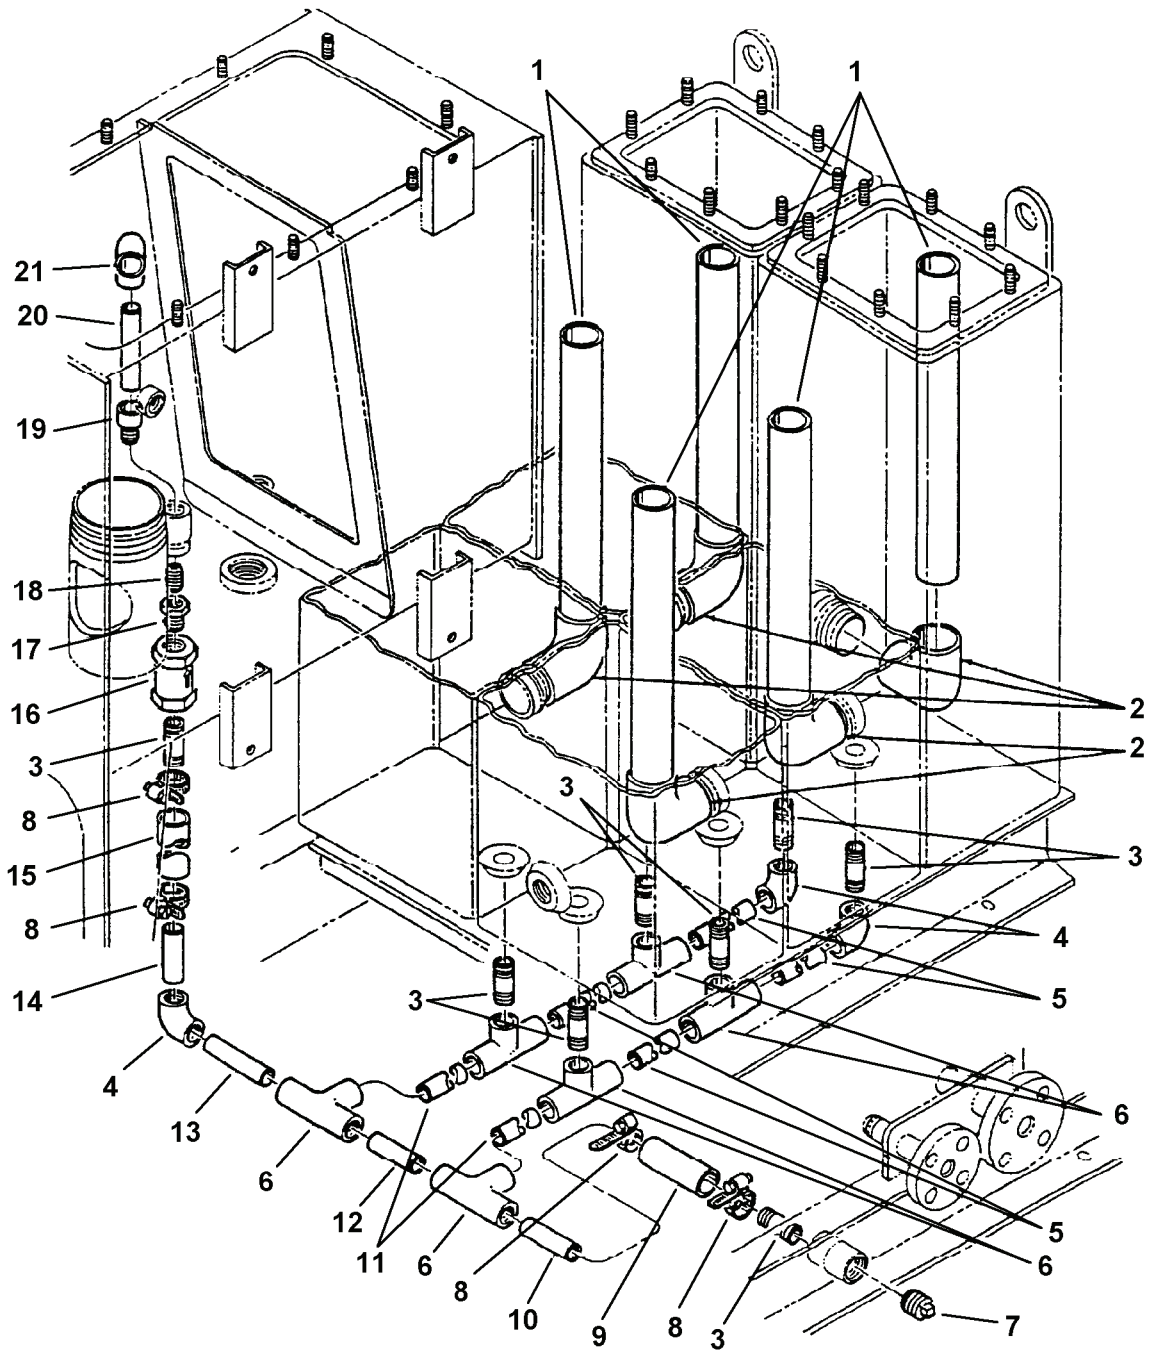

Figure 2-25. Flow Piping Assembly Group.
- a. Removal of the Flow Control Valve (Figure 2-25); proceed as follows:
- (1) Place container under pipe plug (7) to catch remaining bleach or effluent.
- (2) Remove pipe plug (7) and allow complete draining of piping system.
- (3) Loosen two hose clamps (8) from non metallic hose (15) and remove hose.
- (4) Disconnect nipple pipe (3) from flow control valve (16).
- (5) Disconnect flow control valve (16) from pipe bushing (17).
- b. Removal of the piping assembly (Figure 2-25) proceed as follows:
- (1) The upper section of piping (17, 18, 19, 20 and 21) can be disconnected after the flow control valve (16) is removed.
- (2) The lower section of piping (14, 4, 13, 6, 12, 11, 3, 5 and 10) can be disconnected after removal of the two hose clamps (8) from the applicable non metallic hoses (15 or 9).
Repair is by replacement of the Flow Control Valve, damaged or worn associated piping (Figure 2-25):
- (1) Remove applicable associated pipe fittings as describe in removal step b.
- (2) Install new applicable pipe fitting as described in replacement step b.
- a. To replace the Flow Control Valve (Figure 2-25) proceed as follows:
- (1) Connect flow control valve (16) to pipe bushing (17).
- (2) Re-connect nipple pipe (3) to flow control valve (16).
- (3) Re-connect non metallic hose (15) to nipple and pipe (14).
- (4) Move hose clamps (8) over hose and tighten.
- (5) Replace pipe plug (7).
- b. To replace the upper piping assembly (Figure 2-25) proceed as follows:
- (1) Re-connect the piping (17, 18, 19, 20 and 21).
- (2) The applicable lower section of piping (14, 4, 13, 6, 12, 11, 3, 5 and 10) can be reconnected and reconnect the two hose clamps (8) to the applicable non metallic hoses (15 or 9).